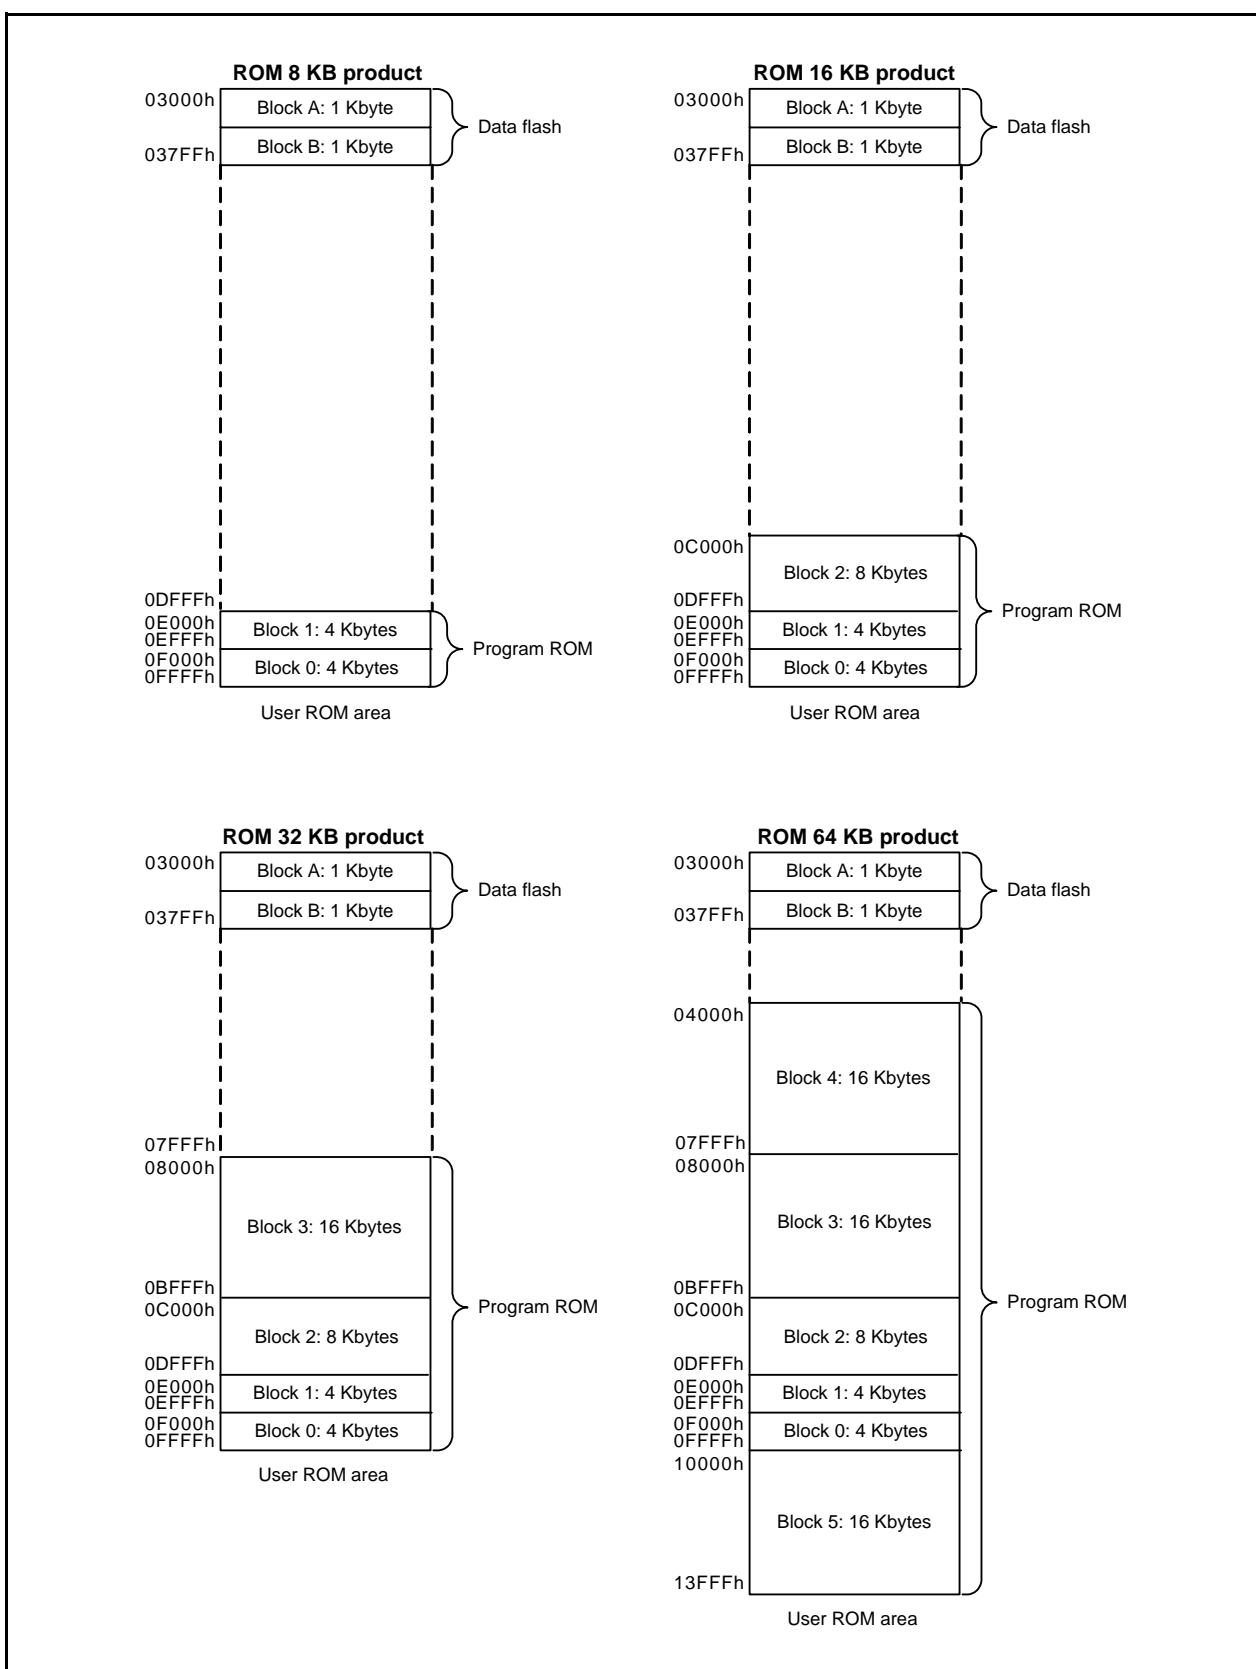

Figure 28.1 Flash Memory Block Diagrams of R8C/LA3A Group and R8C/LA5A Group
4. The number of blocks and block division vary with the MCU. Refer to **Figure 28.1 Flash Memory Block Diagrams of R8C/LA3A Group and R8C/LA5A Group** for details.
Figure 28.1 shows the Flash Memory Block Diagrams of R8C/LA3A Group and R8C/LA5A Group.